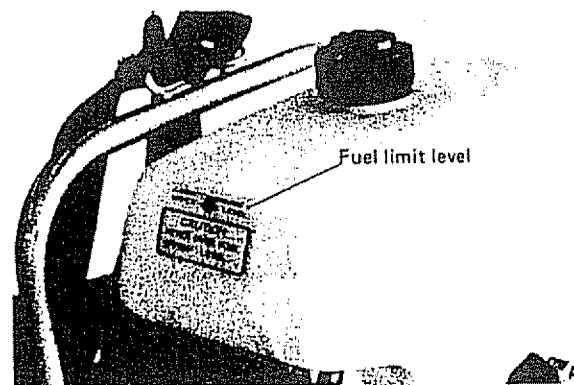
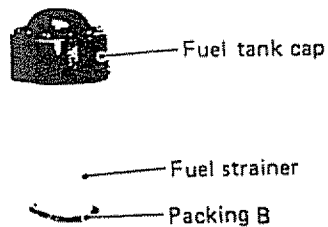

Figure 4
Figure 11
- (1) Do not fill fuel above fuel limit level. (Fig. 4)
- (2) Wipe all spilled fuel with a dry cloth.
- (3) Always attach the fuel strainer. (Fig. 11)
- (4) Tighten fuel cap securely.
### 2. Fuel strainer (Fig. 11)